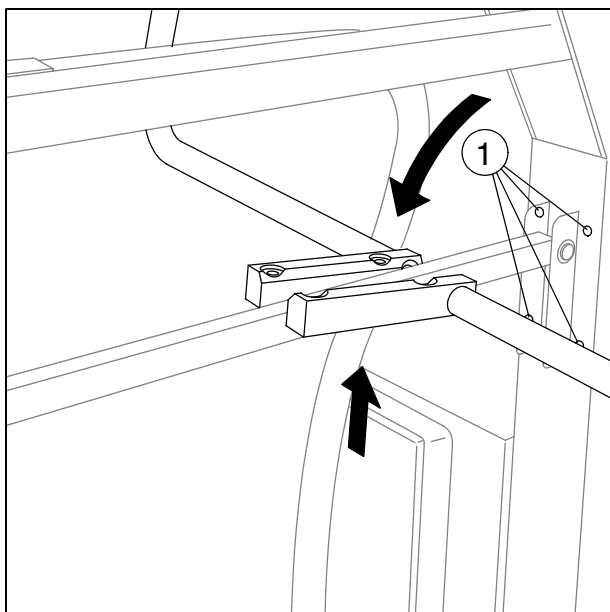
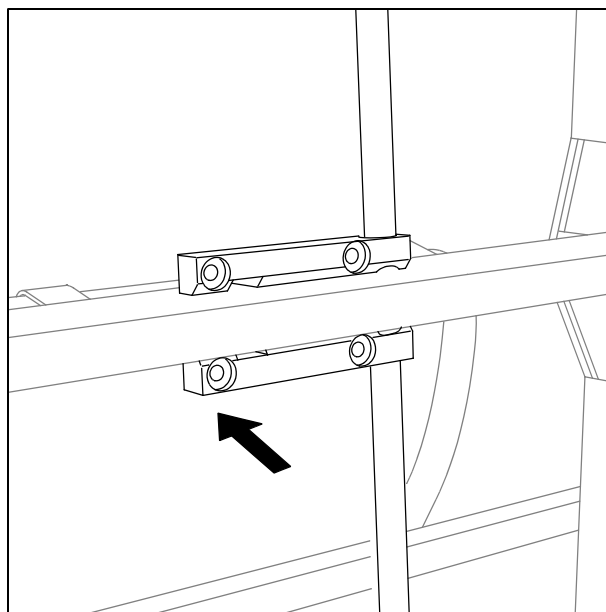

Fig. 2
Fig. 3
- Remove the four Allen screws (1/Fig. 2) in the handle and remove the handle (see Fig. 2 and Fig. 3).